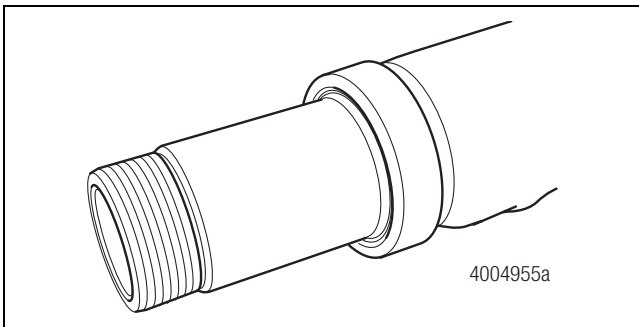

Figure 3.2
- The axle spindles are straight and shorter than conventional spindles. Figure 3.2.